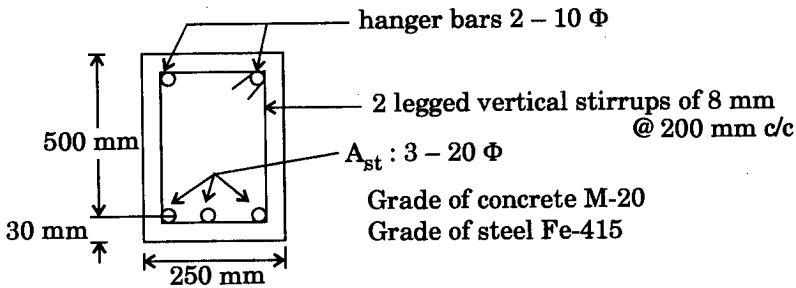

Figure 3
6. (a) Calculate the “ultimate shear strength” of the support section of a beam shown in Figure 3 by using Limit State Design. $5\frac{1}{2}$